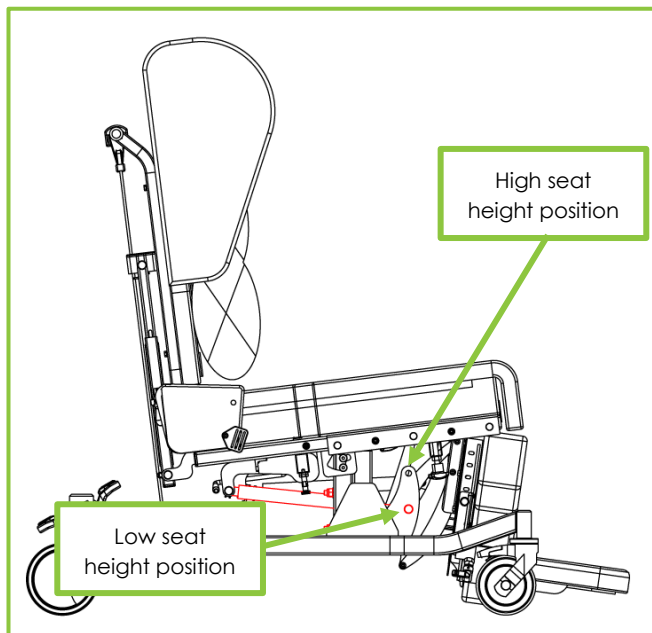

Figure 20 – Actuator mounting
8. Refit the shoulder bolt, washers, bushes, and nut in the required hole of the base frame. (Fig 20).